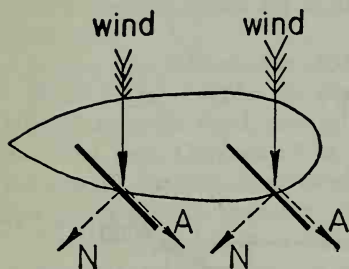

FIG. 33-6.
If the boat is not to be driven in the direction of the wind but at an angle thereto, the conditions are as shown in Figs. 33-6 and 33-7. In Fig. 33-6, the wind has been resolved into components normal to and along the faces of the plates.
*drive* section. If not eliminated, they greatly reduce the drive of the sail. They are eliminated by the use of a foresail or jib. The air spilling from the leech of the foresail or jib, force component *A* (Fig. 33-6), sweeps the eddy currents away and restores the drive of the mainsail. The jib also increases the drive of the mainsail in another way. The increased velocity of the wind passing through the narrow opening between the two sails results in a lower pressure on the forward side of the luff of the mainsail, as in the neck of a Venturi meter. The effect is accentuated by an overlapping of the jib.